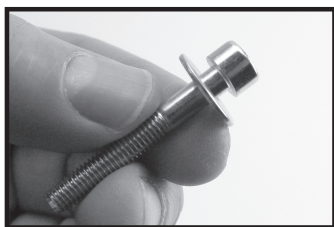

Figure 1
1. (FIGURE 1) PLACE 3/16" WASHER ONTO PIVOT BOLT.